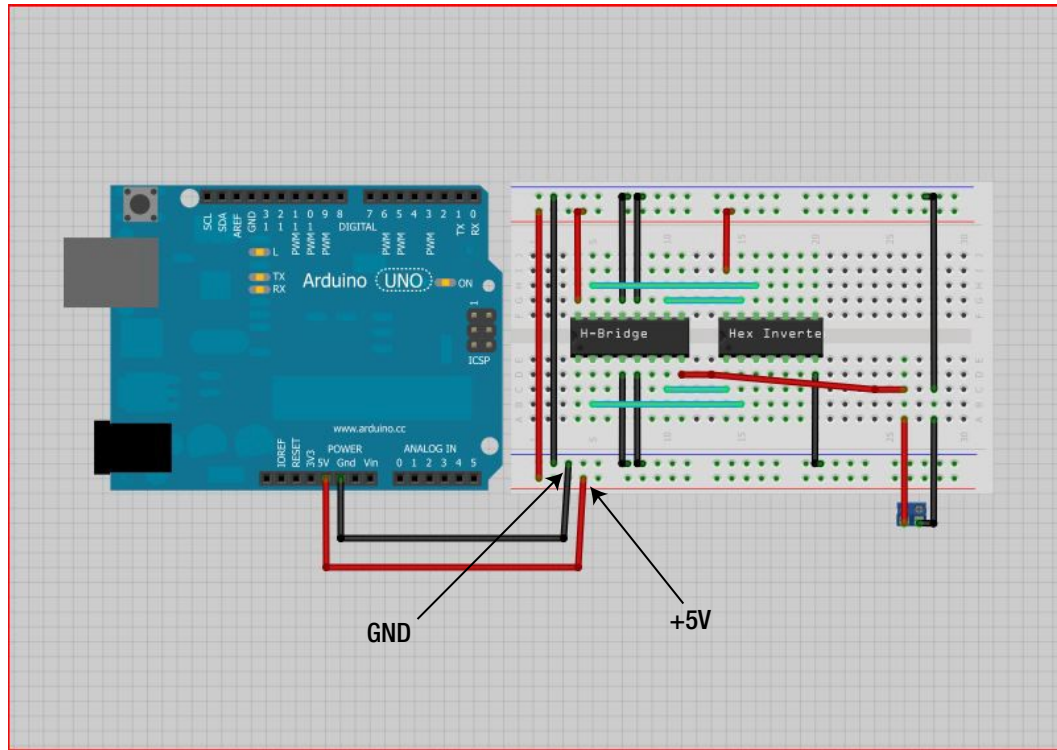

Figure 31-12. Connect 5V power and ground to the power and ground strips of the breadboard
12. Connect the 5V pin of the Arduino to the power side rail of the breadboard. Then connect the GND pin of the Arduino to the ground side rail. Figure 31-12 illustrates this process.